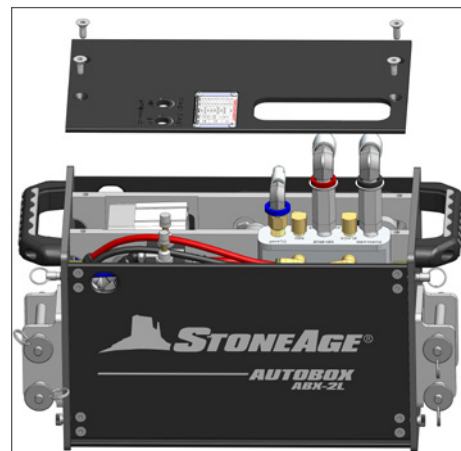

FIGURE 4
3. Attach the Top Plate and close the Side Door Assembly. **(FIGURE 4)**